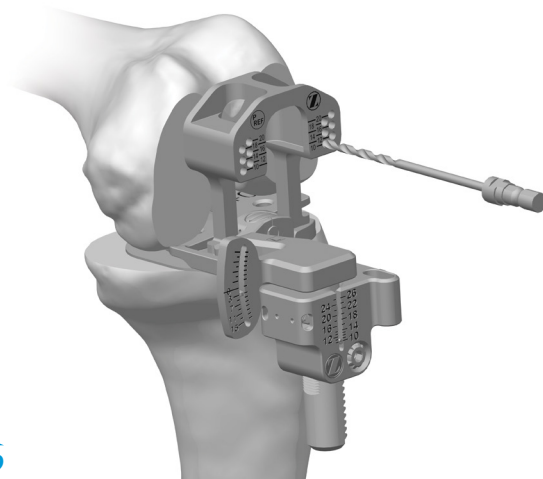

Fig. 49
- Select the holes on the drill guide that match the gap measured in extension. **Ensure the *Zimmer FuZion* Gap Referencing Drill Guide is parallel, or flush, with the face of the distal femur.** Drill the holes using the 3.2mm Drill. These will position the *Persona* Posterior Referencing 4-in-1 Cut Guide (Fig. 49).